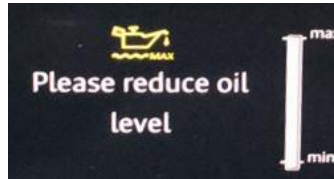

Figure 1. Message in instrument cluster.
- “Please reduce oil level” message is shown in cluster or MMI (Figure 1).